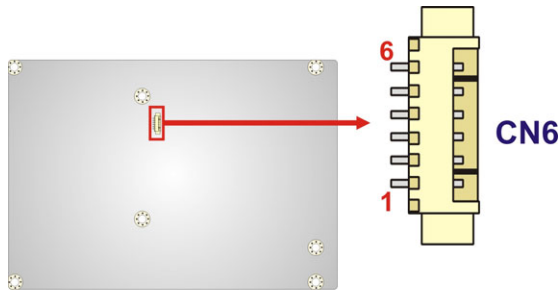

Figure 3-12: LVDS2 Backlight Control Connector Location
- CN Location:** See **Figure 3-12**